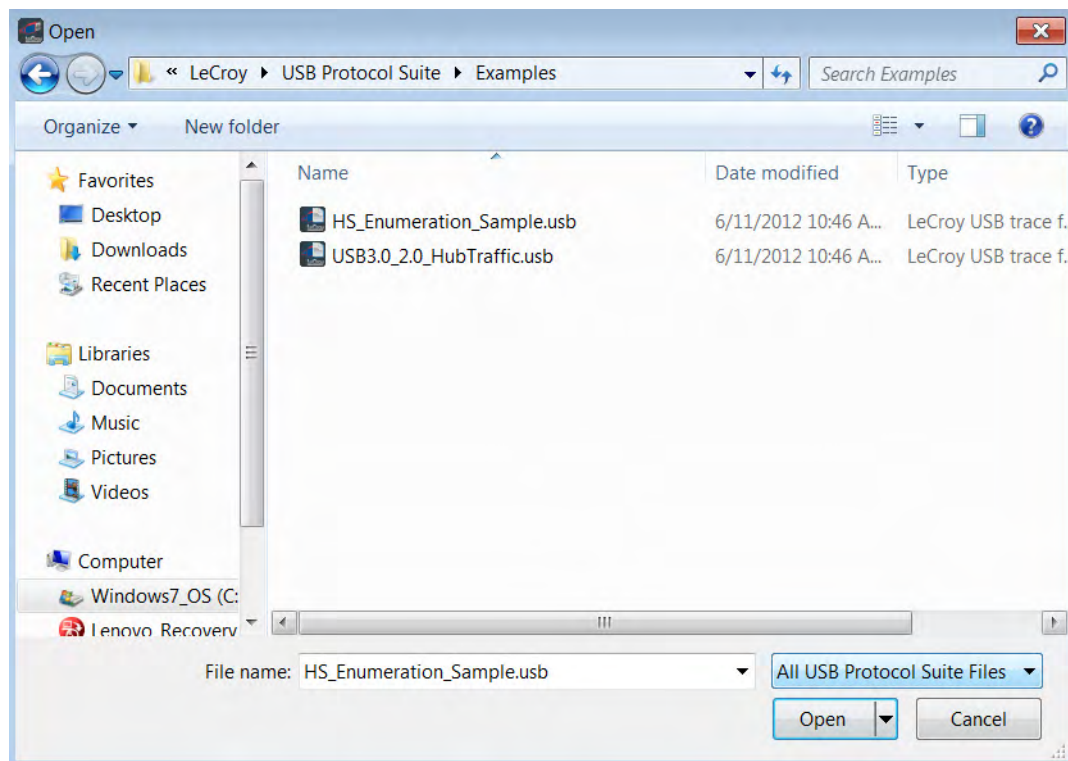

Figure 11.16: Open Dialog
1. Select **File > Open ...** from the menu to display the Open dialog (see Figure 11.16 on page 450):